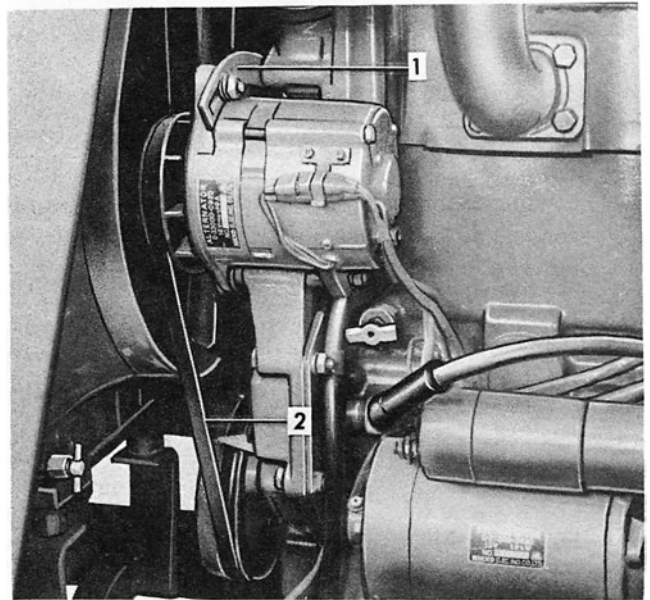

Figure 15
2. Place the V-belt over the alternator drive pulley and pull the alternator away from the engine until the belt has a 10-15 mm (.40-.60 in.) deflection measured between the alternator and the crankshaft pulley, see Figure 15. Tighten the bolts securely.